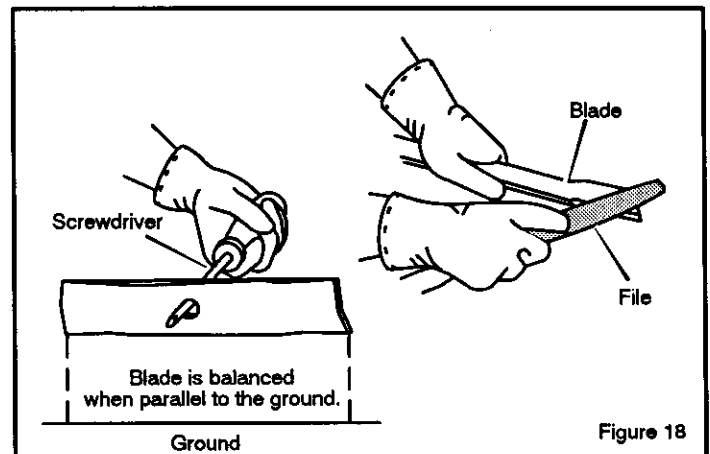

Figure 18
4. Sharpen the blade with a file (Figure 18). Make sure you keep the original bevel angle.
5. Make sure the blade is balanced. Use a screwdriver and hold the blade parallel to the ground (Figure 18). A blade that is balanced will stay parallel to the ground. If the blade is not balanced, the heavy end will rotate toward the ground. Sharpen the heavy end until the blade is balanced.